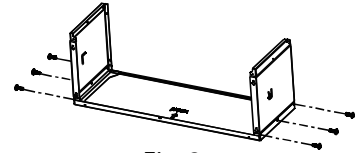

Fig. 2
- Install 6 short screws as shown below. (See Fig.2)